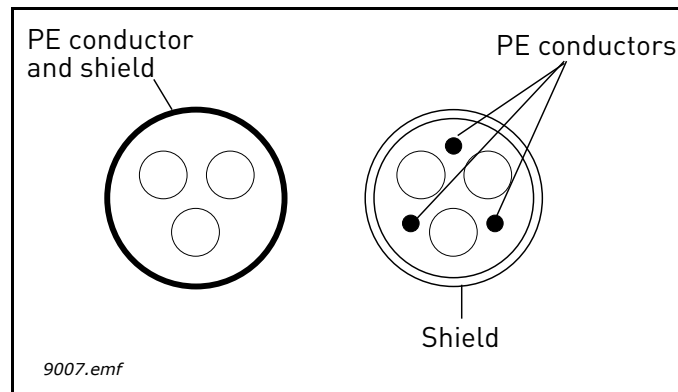

Figure 13.
2 = Symmetrical power cable equipped with concentric protection wire and intended for the specific mains voltage. (MCMK or similar recommended). See Figure 13.
- 3 = Symmetrical power cable equipped with compact low-impedance shield and intended for the specific mains voltage. [MCCMK, EMCMK or similar recommended; Recommended cable transfer impedance (1...30MHz) max. 100mohm/m]. See Figure 13.